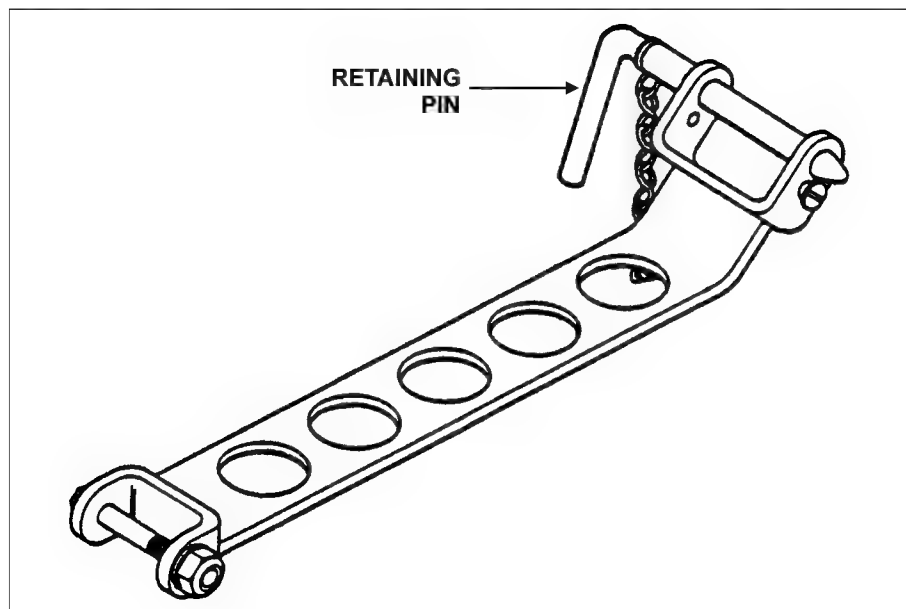

Figure 3-16. Travel lock adapter.
(4) ***Travel Lock Adapter.*** This adapter is used to hold the gun cradle securely during travel. It is attached to the gun cradle by a retaining pin, which is inserted through the gun cradle train and elevating mechanism mounting holes (Figure 3-16).